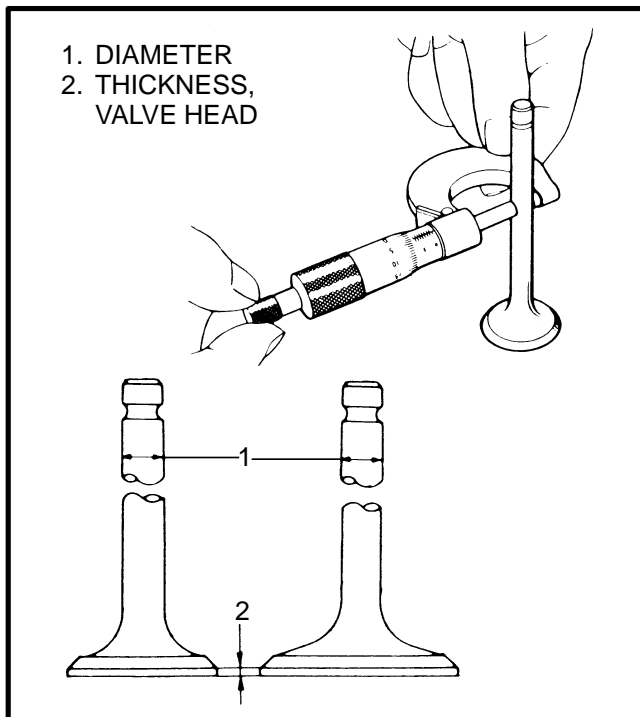

FIGURE 15. INSPECT THE VALVES
1. See FIGURE 15. Inspect the stem of each valve for wear. Use a micrometer to measure the outside diameter of the stem. The minimum dimension for an intake valve is 7.980 mm (0.3142 in). The minimum dimension for an exhaust valve is 7.975 mm (0.3140 in).